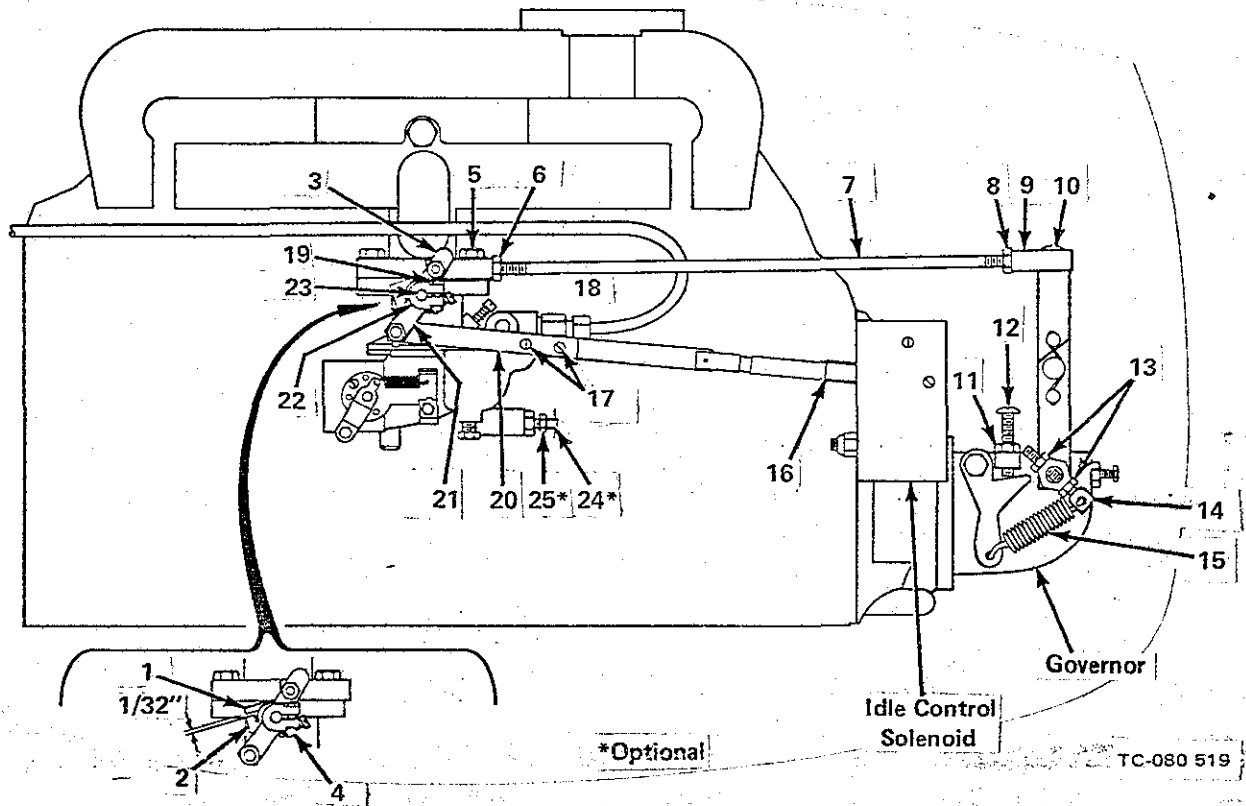

Figure 9-5. Idle Control/Governor Linkage Adjustment And High-Altitude Carburetor Modification
Amend Figure 9-5. IDLE CONTROL/GOVERNOR LINKAGE ADJUSTMENT AND HIGH-ALTITUDE CARBURETOR MODIFICATION
Amend Section 9-7. IDLE CONTROL/GOVERNOR LINKAGE ADJUSTMENT (Figure 9-5)
3. Pull the arm (3) toward the front of the welding generator to the idle position. Maintain pressure on the arm (8) to butt against the idle screw (4) throughout the following adjustments:
- A. Rotate the idle speed screw (4) to obtain 550 rpm. Clockwise rotation of the screw (4) will increase engine rpm, whereas counterclockwise rotation of the screw (4) will decrease engine rpm.
- B. Rotate the idle mixture adjustment screw (18) counterclockwise until the engine begins to falter or roll; then rotate the screw (18) clockwise until the engine operates smoothly. Rotating the screw (18) clockwise restricts the fuel flow, making the air-fuel mixture leaner. Rotating the screw (18) counterclockwise admits more fuel, making the air-fuel mixture richer.
4. Loosen the alignment screw (19) and position the idle alignment clamp (22) radially and laterally until the following conditions are simultaneously met:
- A. Position the clamp (22) laterally so that the outer edge of the clamp (22) is flush with the end of throttle shaft (23).
- B. Position the clamp (22) radially so that the idle arm (21) is positioned radially approximately as shown in Figure 9-5.
Amend Section 9-8. HIGH-ALTITUDE CARBURETOR MODIFICATION (Optional) (Figure 9-5)
The Teledyne Walbro carburetor can be equipped with an adjustable main jet for high-altitude operation (above 4000 ft). Minor adjustment will be necessary for proper operation at a particular altitude. Whenever a carburetor adjustment is deemed necessary, see Figure 9-5 and proceed as follows: